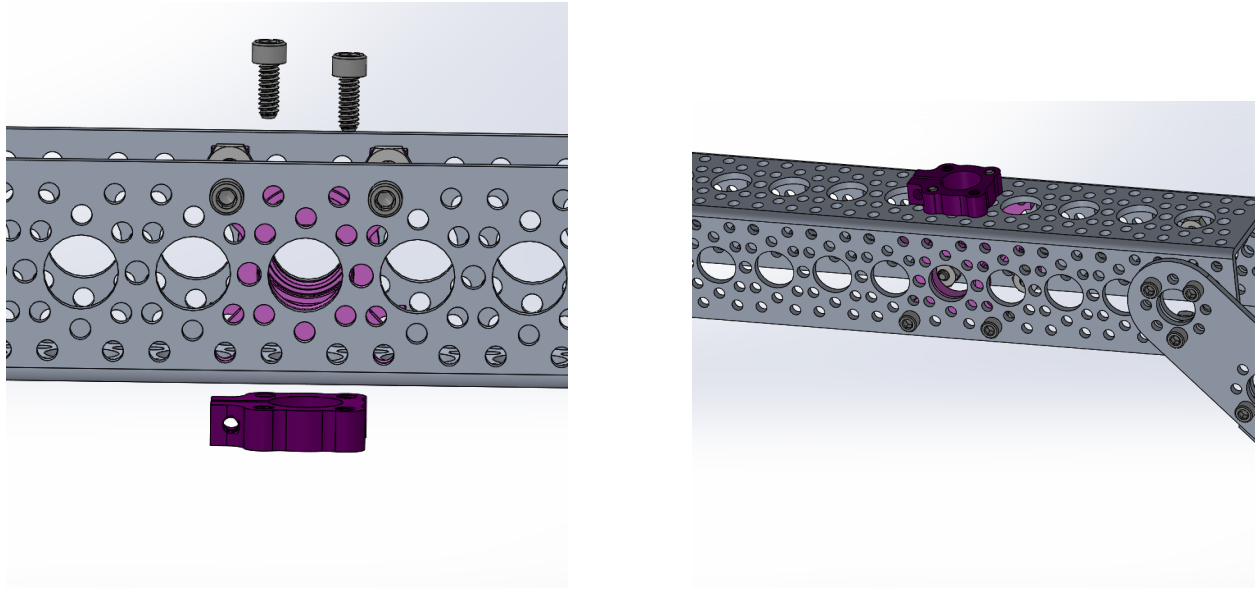

Figure 11: Clamping hub attachment
9. **Attach Clamping Hub:** Attach the Clamping Hub **S13** using screws **B2** and hex nuts **B11** as shown in Figure 11. The clamping hub should be centered above where you just placed the pillow bearing blocks.